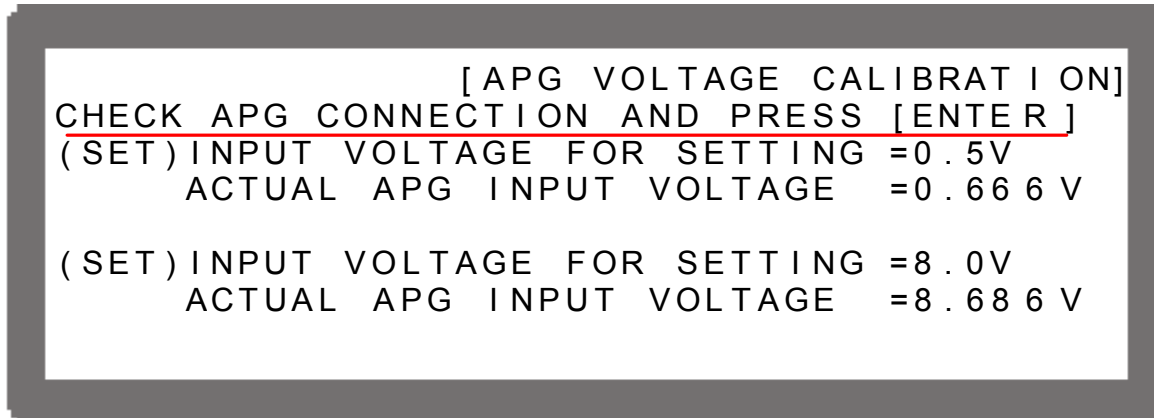

Figure 3-119
- (1) In CALIBRATION page, press “4” or turn “Rotary” (⊙) knob to set CHOICE = 3.
- (2) Press “” to confirm entering into APG Voltage Calibration options as Figure 3-119 shows.